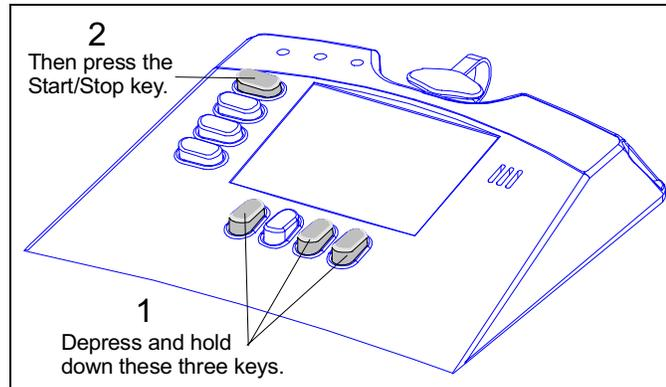

Figure 18 Configuring Voyager to Receive Firmware
11. To configure Voyager to receive new firmware, switch Voyager on, while pressing the leftmost, and two rightmost soft keys, as shown in Figure 18. The display will be very dim, and the Ready LED will be on.